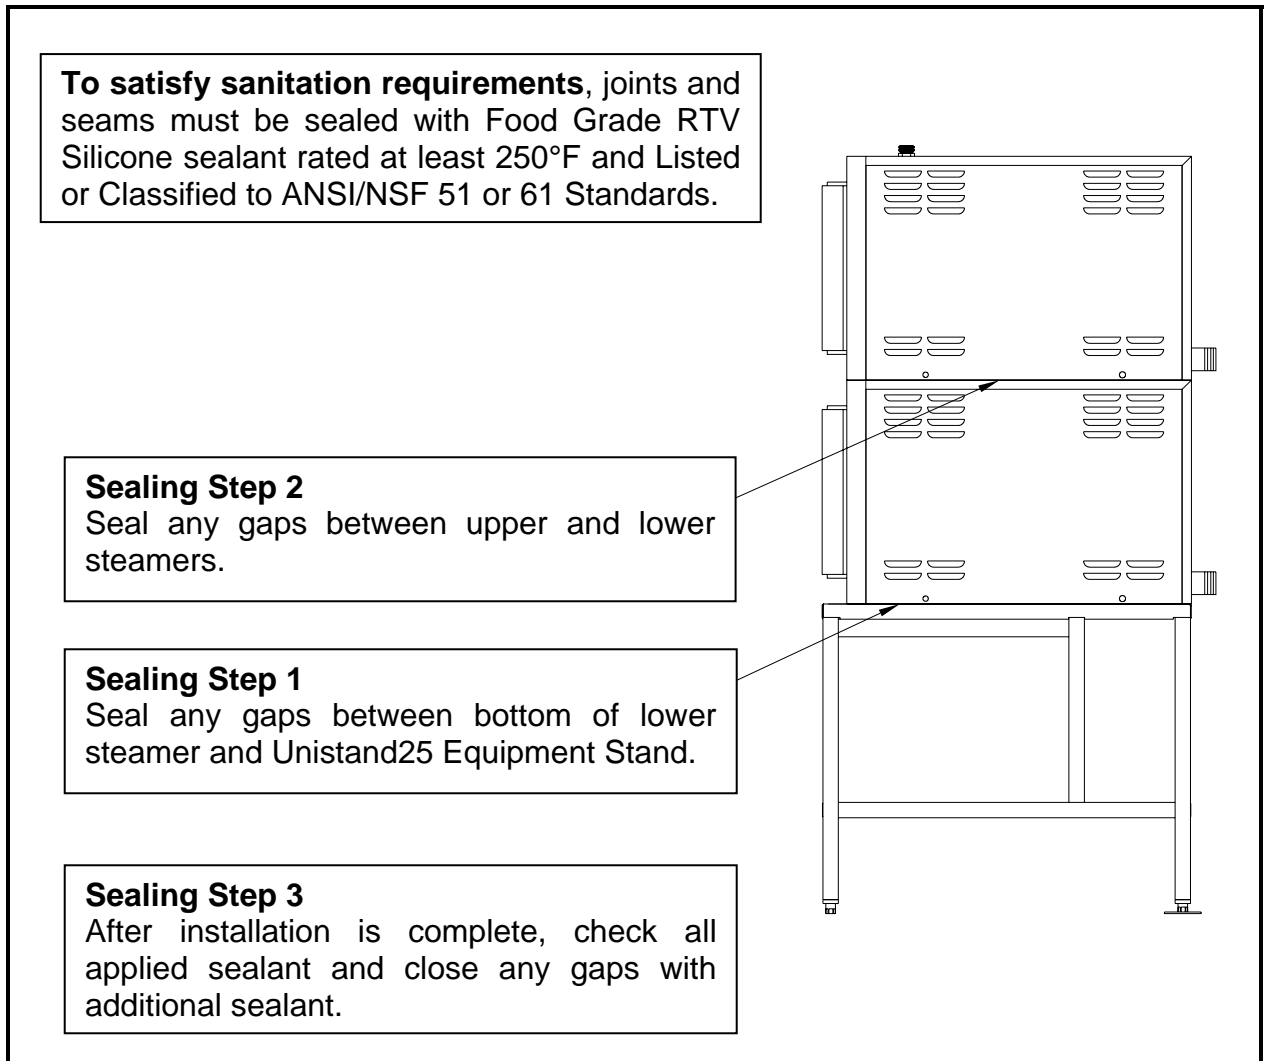

Figure 2
4. Remove right side panel and seal any gaps between steamer and stand with a suitable RTV Sealant (not provided) as shown in Figure 2 on page 3.
8. Seal any gaps between upper and lower steamers with RTV sealant (see Figure 2).